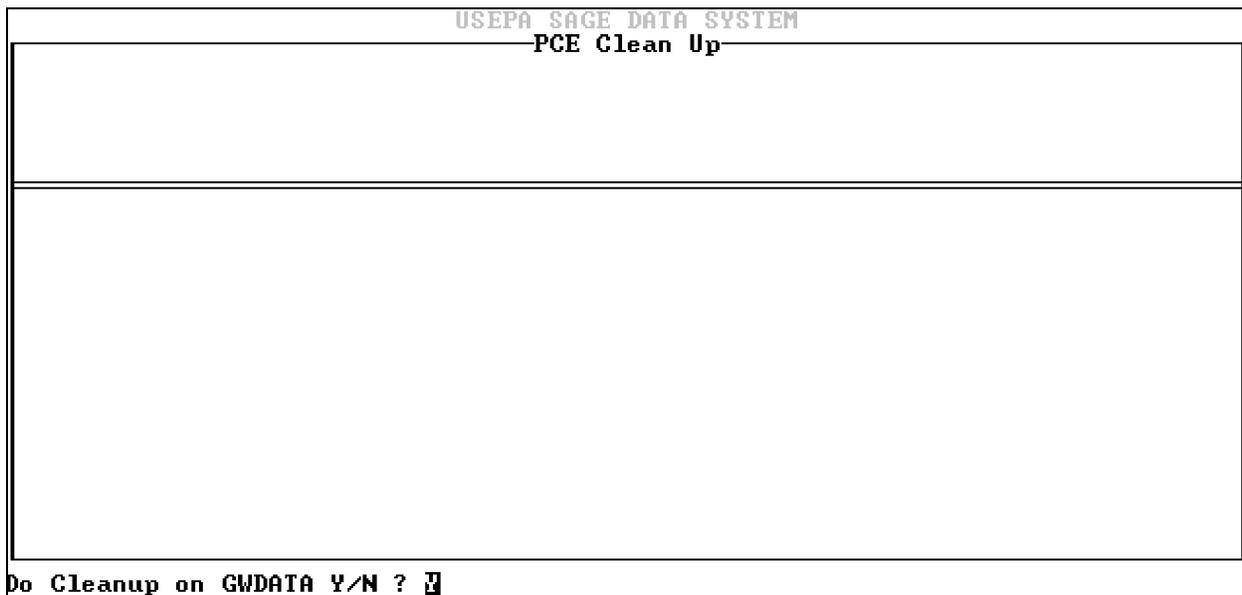

Figure 10-109. The **PCE Clean Up** window.
2. Use the up and down arrow keys to highlight the **Clean Up Databases** option and press **<Enter>**. The **PCE Clean Up** window shown in Figure 10-109 appears on your screen.